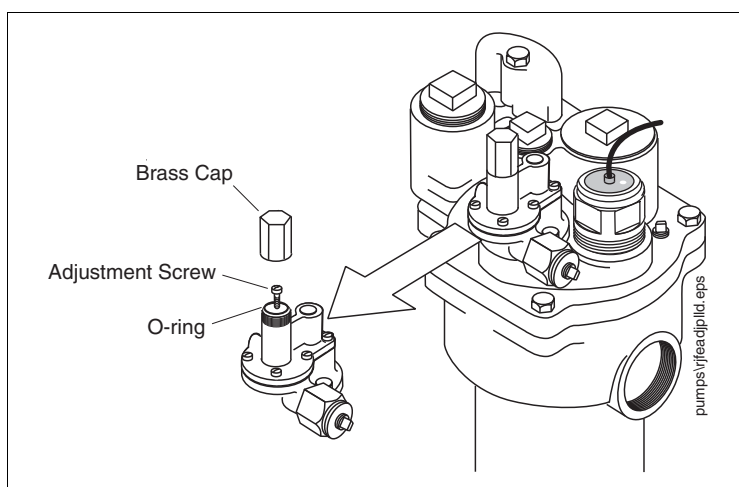

Figure 25. Pressurstat adjustable valve assembly (Red Jacket Standard pump shown)
- a. Unscrew the protective brass cap from the adjustment screw (Figure 25).